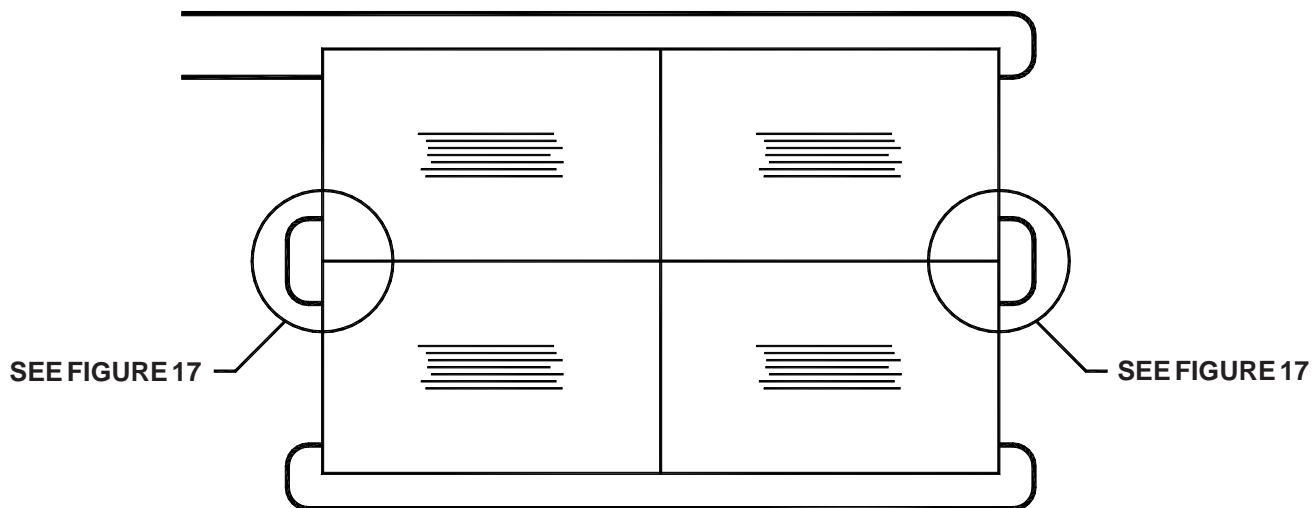

Figure 16 - Connection of sensors in series
Step 5 - In the case of a combination of sensors connect the sensors in series as shown in Figures 16 and 17. Special grease filled waterproof connectors are available from Tapeswitch Ltd. for this purpose. If necessary cut the cables to length. Always leave some slack in the cables in order that a sensor can be disconnected and reconnected at a later date. The connectors are fitted using a pair of pliers. Make sure that they are fully mated.